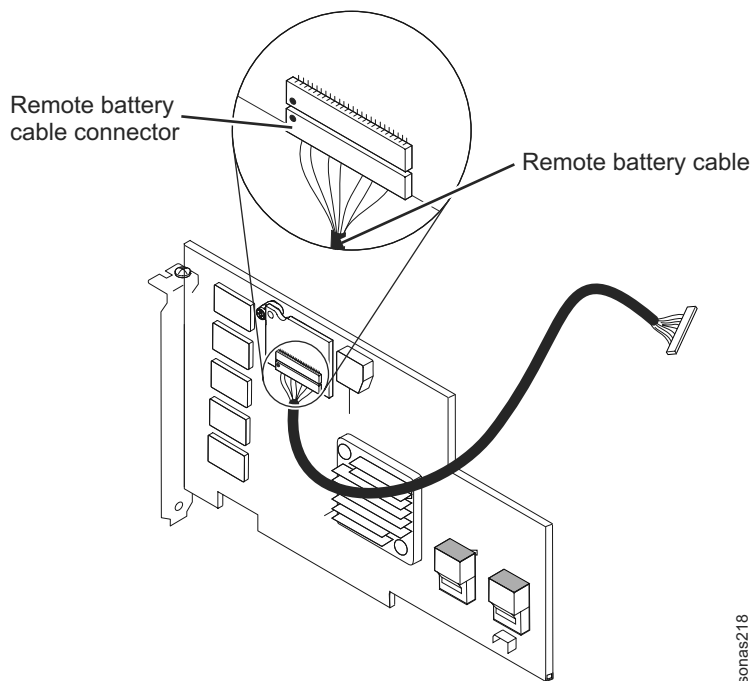

Figure 33. Disconnecting the remote battery cable
- b. Lift the battery and battery carrier from the tray and carefully disconnect the remote battery cable from the interposer card on the ServeRAID controller. See Figure 33.